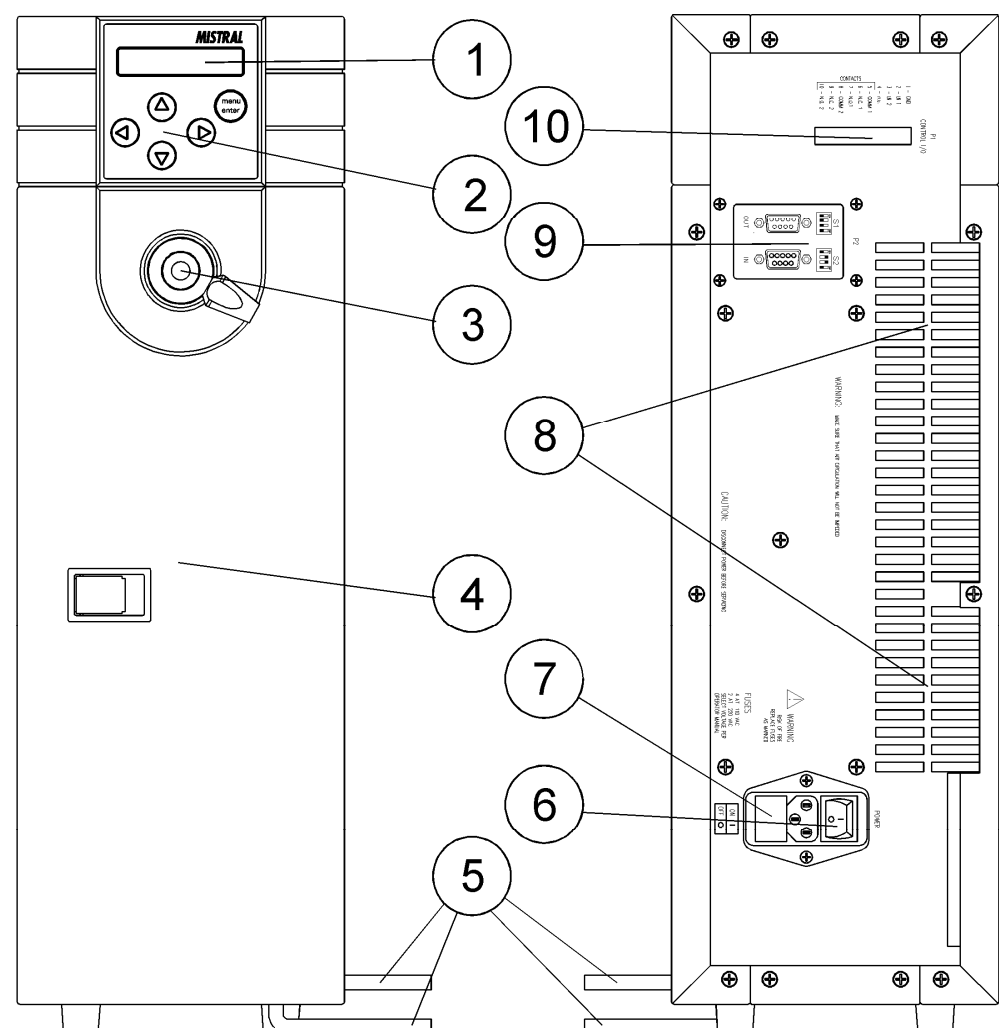

Figure 1: Front and rear view of the Mistral™.
Before plugging in the power cable, check the voltage setting of the Mistral™ at the input socket on the rear panel. Make sure that the voltage setting is identical with the voltage of your local power supply. If the indicated voltage is not correct, select the proper voltage by removing, inverting, and then re-entering the voltage selector cartridge (Figure 1, item 7). Check if the right fuses are installed, if not, replace them with the right fuses.